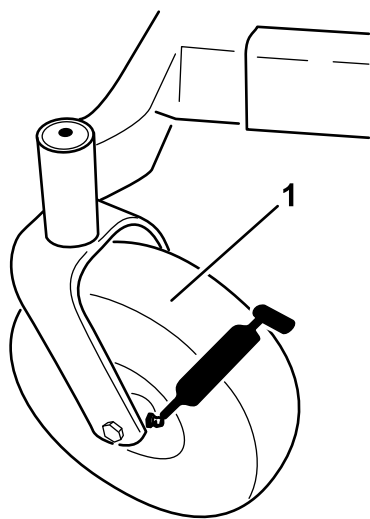

Figure 32
3. Clean the grease fittings (Figure 32 and Figure 31) with a rag.
4. Connect a grease gun to each fitting and pump grease into the fittings until grease begins to ooze out of the bearings (Figure 31 and Figure 32).